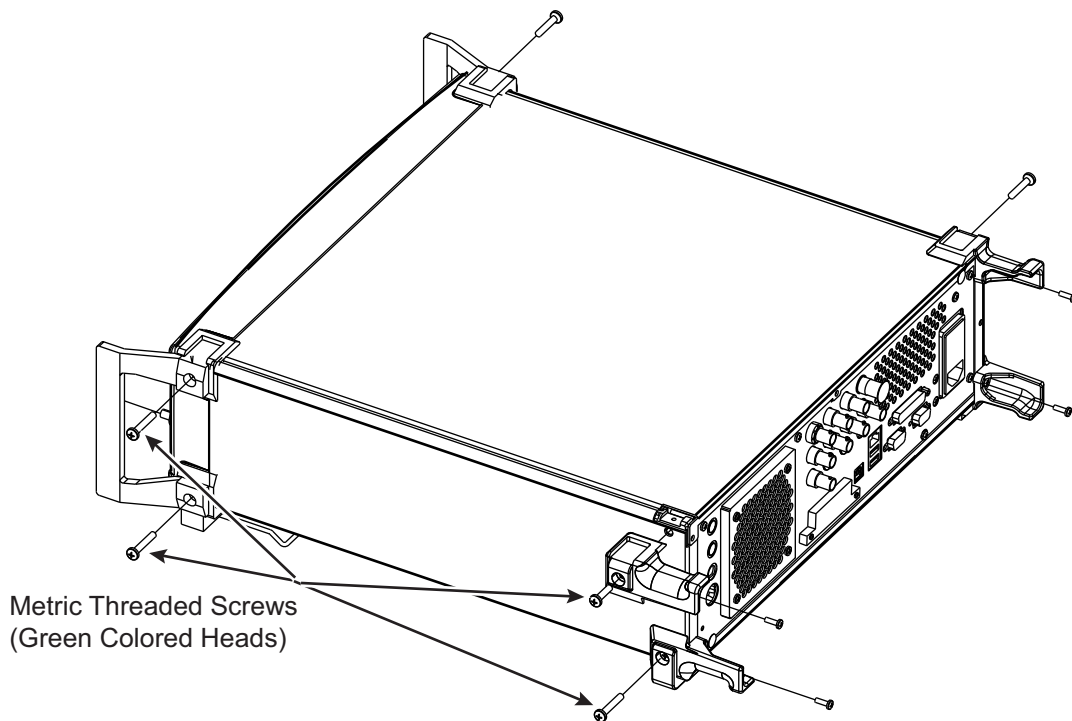

Figure 6-1. Front Handles, Rear Feet and Corners Removal
1. Using a Phillips screwdriver, remove the screws and the front handle assemblies from the instrument (see Figure 6-1). For models not having front handles, remove the screws and the front top and bottom feet from the instrument.